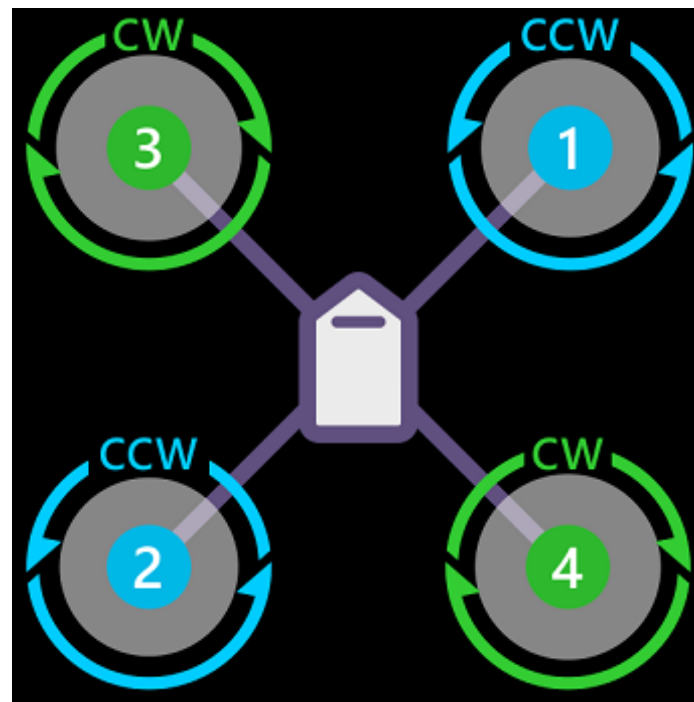

Fig.3.3
- Connect the ESC and Flight controller as per the motor layout. Refer Fig.3.3